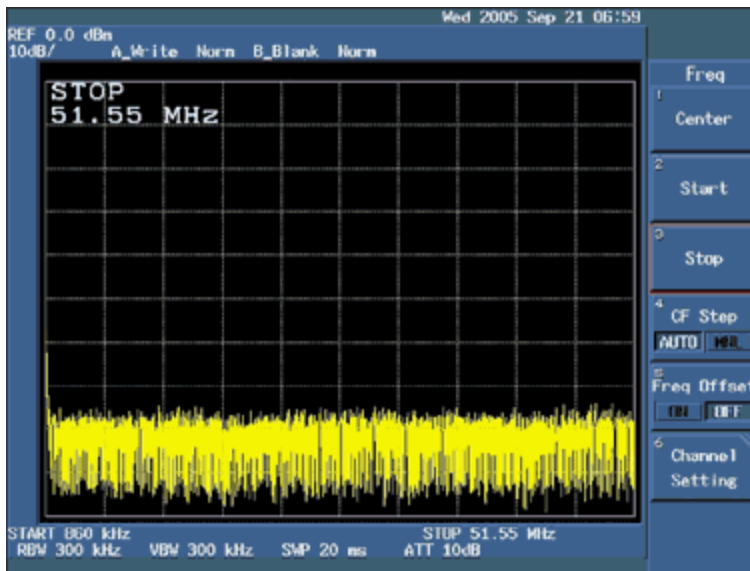

Figure 3. Setting up the end frequency at 51.55MHz.
3. Press soft key #3 (**Stop**) and type the stop frequency using the numeric keypad, followed by the appropriate units (GHz, MHz, kHz, or Hz) key to enter the value. From Tables 1 and 2, for both the input and output port, the frequency range ends at **51.55MHz**, as shown in **Figure 3**.